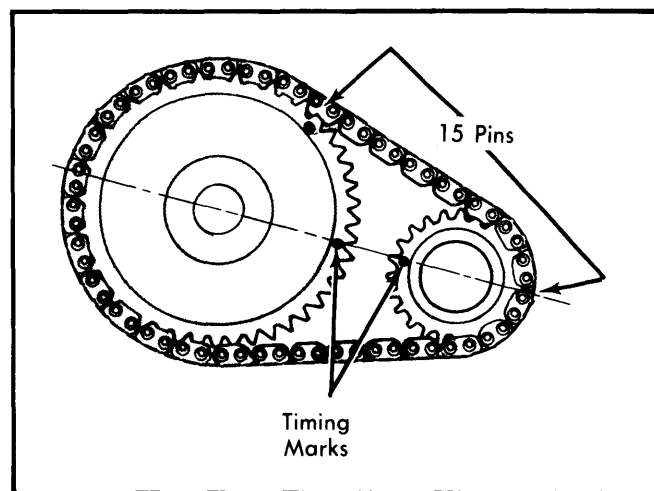

Fig. 7 Timing Chain Sprocket Alignment
**Removal** — Remove engine front cover and oil seal. Remove camshaft sprocket retaining bolt and washer. Rotate crankshaft until timing mark on sprocket is aligned with camshaft sprocket timing mark. See Fig. 7. Remove sprockets and timing chain as an assembly.
**Installation** — Assemble timing chain, crankshaft sprocket, and camshaft sprocket with timing marks aligned. See Fig. 7. Install assembly to crankshaft and camshaft. Install camshaft sprocket retaining bolt and washer and tighten.
**NOTE** — To ensure proper installation of timing chain, rotate crankshaft until timing mark on camshaft is at approximately 1 o'clock position. See Fig. 7. Timing mark of crankshaft sprocket then should be fully meshed with timing chain, with 15 pins between timing marks. If not, remove and install once more. Also, if chain deflects more than 1/2 inch, it should be replaced.